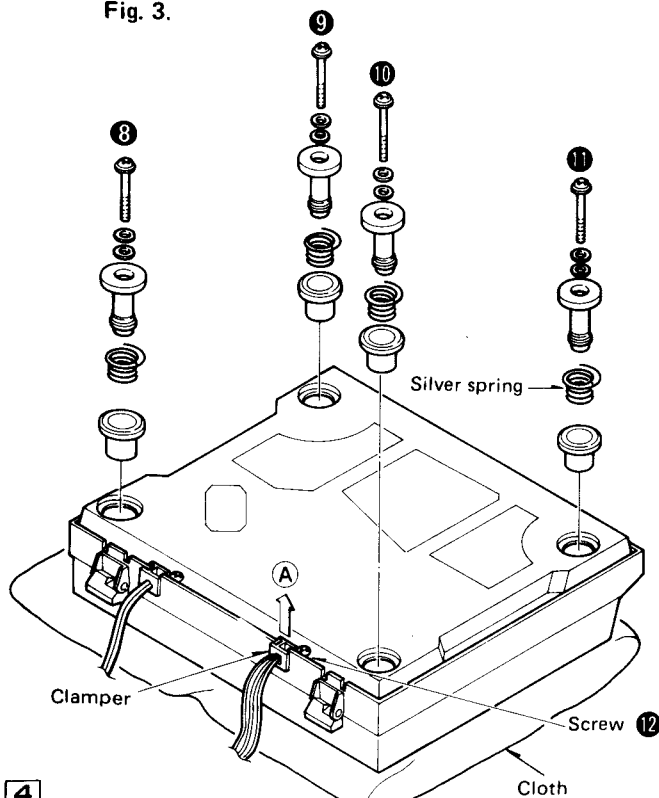

Fig. 3
6. Close the dust cover, and turn over the unit on a soft cloth taking care not to damage (Fig. 3).
7. Remove the 4 audio insulator setscrews (Fig. 3 : ⑧ ~ ⑪).
8. Remove the clamber setscrew (Fig. 3 : ⑫) and slightly lift the bottom board. Then, remove the phono output clamber in the direction of the arrow A.
When replacing the audio insulator, make sure that the silver spring is in regular position as shown in Fig. 3.